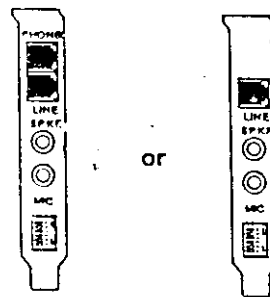

Figure 2-2
9. Connect the telephone cable into the modem's **LINE** connector. Attach the other end into the telephone wall jack (see Figure 2-2).
10. Optionally connect: (1) your telephone to the modem's **PHONE** connector. Lift the handset and listen for a dial tone to check for a working connection. (2) a speaker to the modem's **SPK** connector, and (3) a microphone to the modem's **MIC** connector.